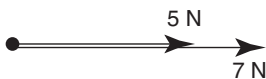

Figure 3.29
7. The magnitude of the resultant of the vectors shown in Figure 3.29 is: